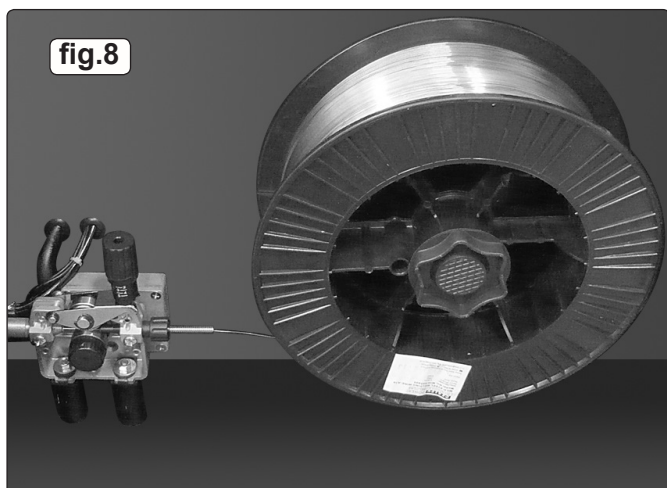

fig.8
- 3.7.1** Unscrew the locking knob from the end of the spool holder (see fig.7C) and remove the spacer (B). The spacer is not required for 15kg reels of wire. Slide the reel of wire onto the spool holder and ensure that the clutch pin at the back of the spool holder (E) engages into the guide hole in the wire reel moulding. This will prevent the wire reel from freewheeling on the spool holder. Ensure that the wire is coming off the bottom of the reel in the direction of the wire drive unit as shown in fig.8 below.